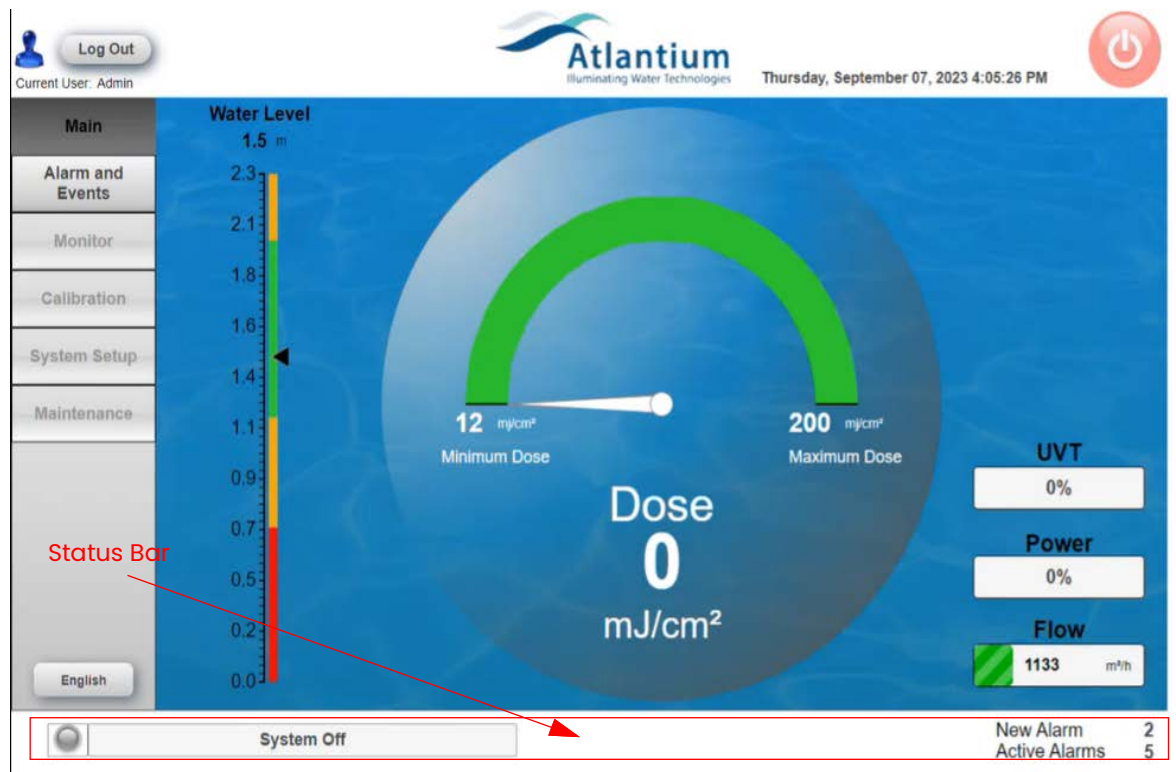

Figure 6-2: Main Screen
- Step 2.** On the Main screen of the Control cabinet HMI, tap the Login button on top LH corner (Figure 6-2 on page 55).